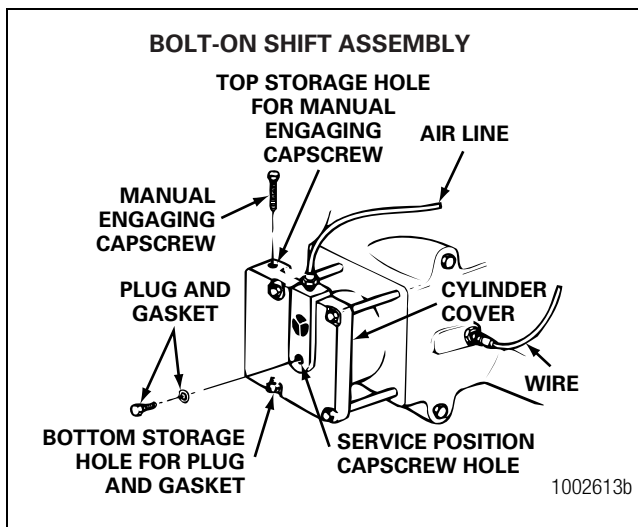

Figure 11.3
10. Remove the manual engaging capscrew from the storage hole. The storage hole of the bolted-on shift assemblies is located in the top side of the shift cylinder cover. Figure 11.3.
11. Remove the plug and gasket from the center of the shift cylinder cover. Install the plug and gasket into the bottom side storage hole of the shift cylinder cover, on the opposite end of the storage hole for the manual engaging capscrew. Tighten the plug to 15-25 lb-ft (20-35 N•m). Figure 11.3. **ⓘ**
9. Install the manual engaging capscrew into the storage hole. The storage hole of bolted-on shift assemblies is located in the top side of the shift cylinder cover. Tighten the capscrew to 15-25 lb-ft (20-35 N•m). Figure 11.3.